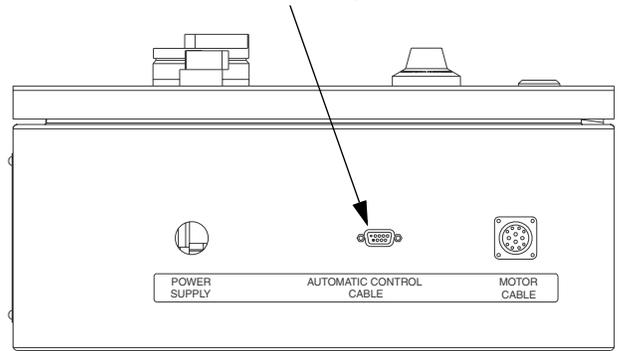

FIG. 10
1. Locate the receptacle on the bottom of the control assembly that is labeled AUTOMATIC CONTROL CABLE. See FIG. 10.
2. Connect the cable assembly to the AUTOMATIC CONTROL CABLE receptacle in FIG. 10.